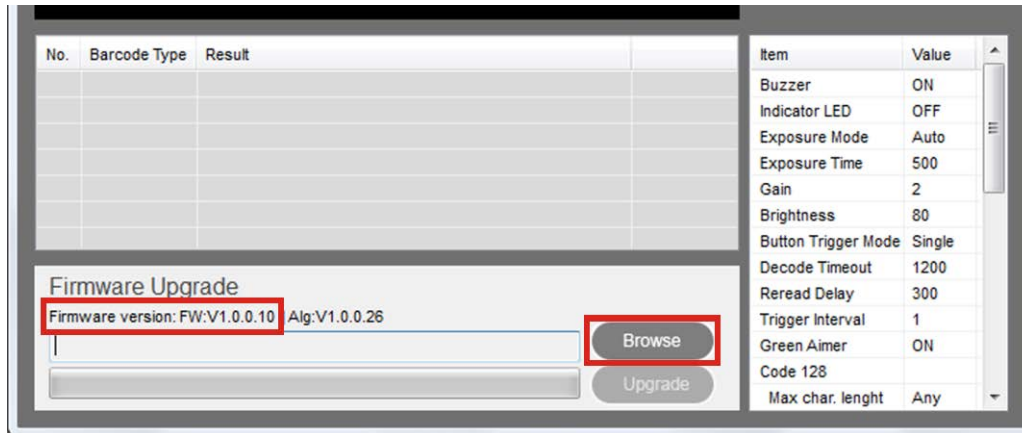

Figure 3-14: Main Menu – Firmware Upgrade
Step 2: The user can see the current firmware version from the main menu (**Figure 3-14**).
Step 4: When the firmware upgrade is complete, the latest firmware version will be shown on the main menu (**Figure 3-14**).